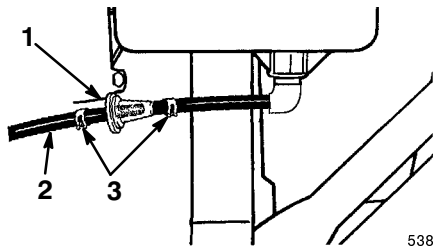

Figure 39
Replace the fuel filter after every 100 operating hours or yearly. The best time to replace the fuel filter (Fig. 39) is when the fuel tank is empty. Never install a dirty fuel filter after you remove it from the fuel line.
1. Squeeze the ends of the hose clamps together and slide them away from the fuel filter (Fig. 39).